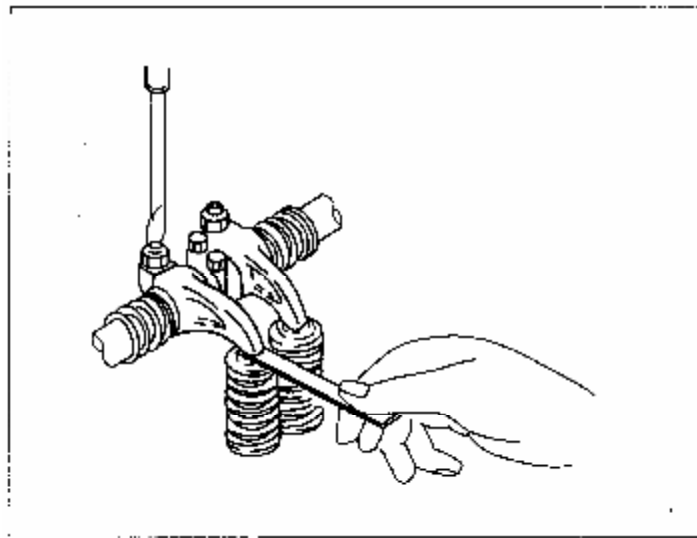

Figure 3-23 Check valve clearance with feeler blades
(2) Insert a feeler into rocker arm and valve, and loosen concerning rocker arm locking nut, turn adjust screw with screwdriver till feeler becomes snug. Then retighten nut (see figure 3-23).